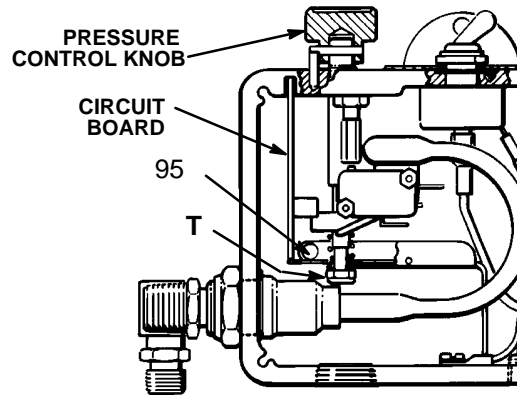

Fig 26-1
Refer to Fig 26-1 and 26-2.
2. Turn the pressure control knob to the minimum setting to release spring tension on the board. Check to be sure only three or four threads of the pressure control knob shaft are exposed below the pressure adjustment nut (T). Loosen the nut, if necessary. Refer to Fig 26-1.